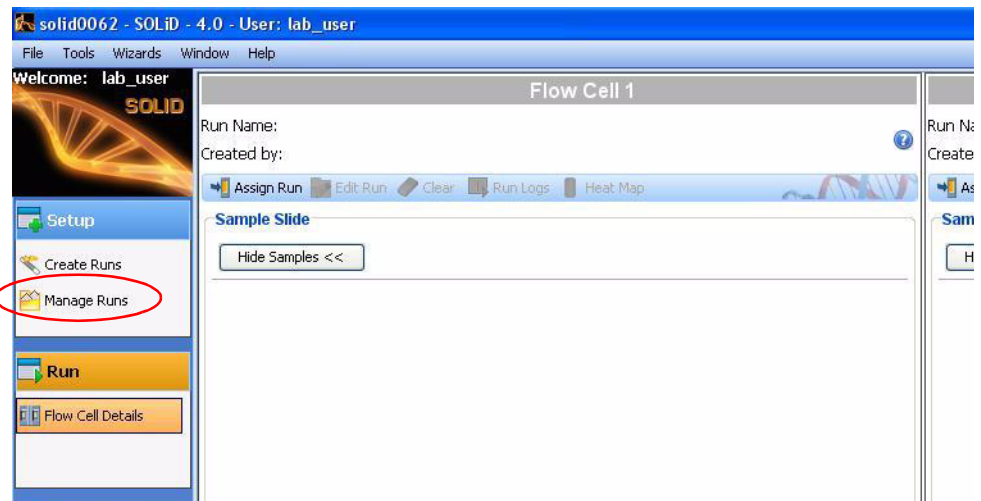

Figure 72 Manage Runs.
1. Click **Manage Runs** in the task pane on the left menu pane of the ICS (see Figure 72).